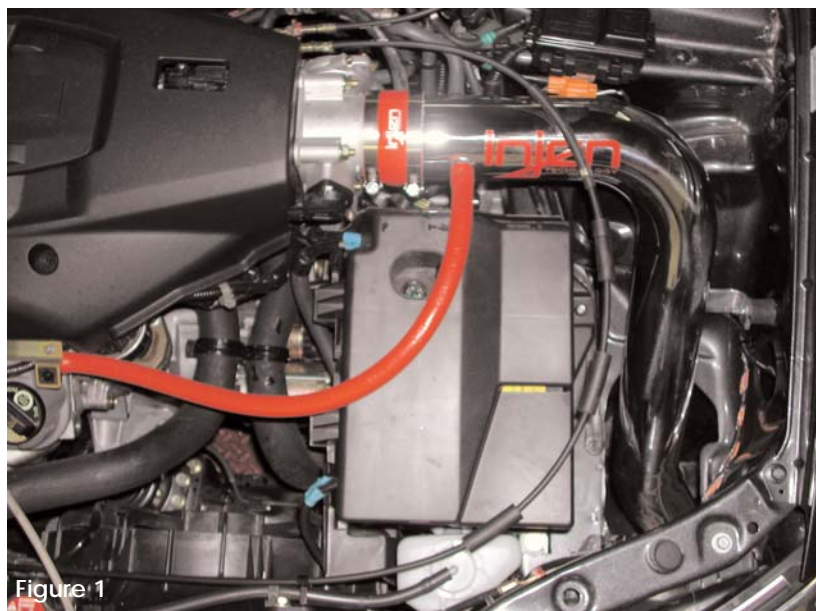

Figure 2
- 2 Press the 3" straight hose over the throttle body and use two clamps. Tighten the clamp on the the throttle body at this point. (See fig. 2)